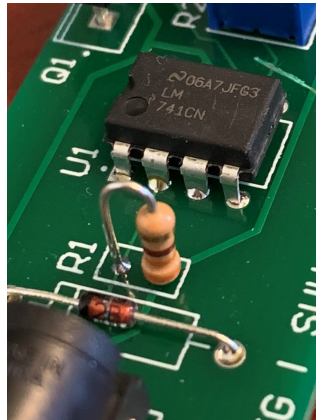

Figure 3: “Hairpin” resistor installation
4. Next, solder the resistors R_1 and R_3 in the circuit. R_3 is soldered in a similar way to D_1 . R_1 is handled differently. Bend one lead on the resistor so that it is parallel to the other lead (Figure 3). This creates a "hairpin" connection where the small U-shaped half-loop you've formed acts as a test point where for example an oscilloscope probe can easily be attached. Insert the resistor in the board so that the body of the resistor is above the lower hole and the bent lead you just made passes through the top hole. This way, voltage measurements at the hairpin will correspond to that at the cathode of D_1 , which is useful for testing the circuit later. Solder the resistors in place on the solder side of the board.